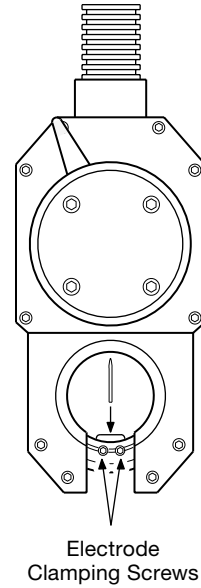

Figure 9 Electrode Installation
1. Without the fixture block attached, press **ELECTRODE CHANGE** on the power supply. The electrode will move to the position shown in Figure 9.